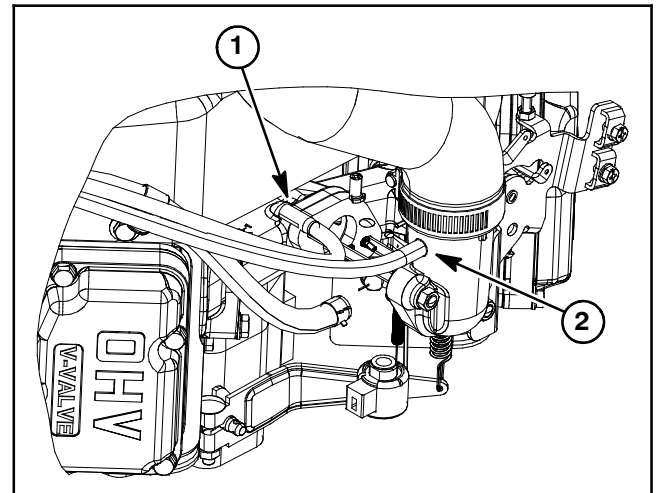

Figure 10
10. Disconnect two (2) EVAP hoses from fittings on engine intake manifold and air intake tube (Fig. 10).
8. Connect two (2) EVAP hoses to fittings on engine intake manifold and air intake tube (Fig. 10).